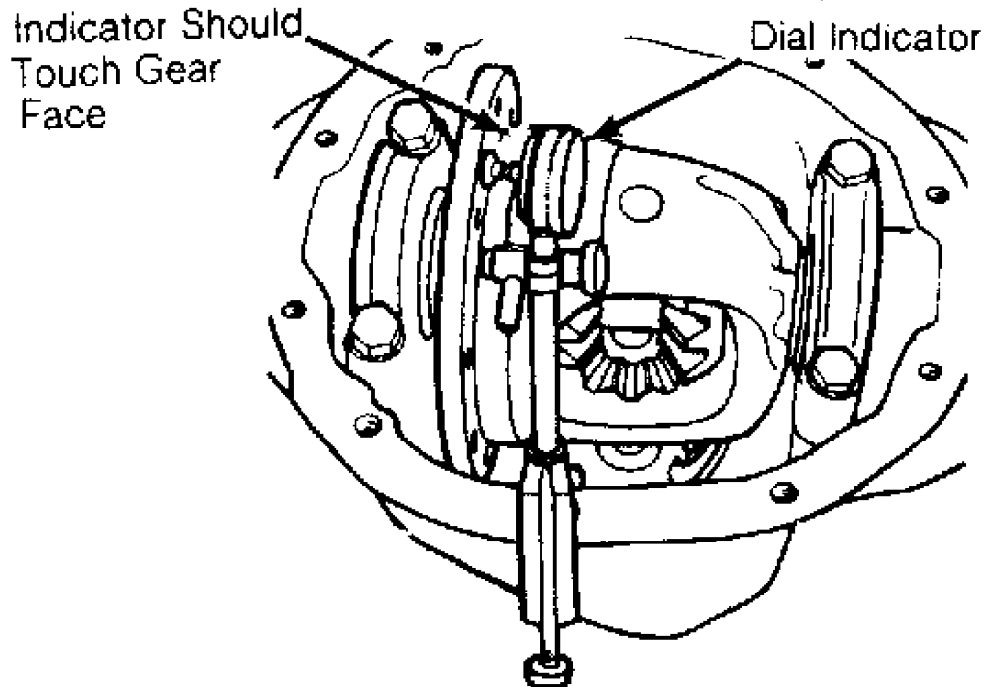

Fig. 5: Differential Bearing End Play & Runout Measurement
4) When all side play is eliminated, check drive gear face of case for runout. Runout should not exceed .002" (.050 mm). Remove case from housing and retain shims used to eliminate side play. See Fig. 5.